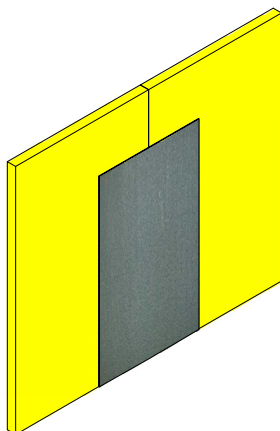

Figure 1
1. Mix Finestop RA/RS/VB per the product bulletin instructions. Apply a generous receiving coat to completely saturate the Sheathing Fabric over the joint and out 2 to 5 inches on each side. (See Figure 1)